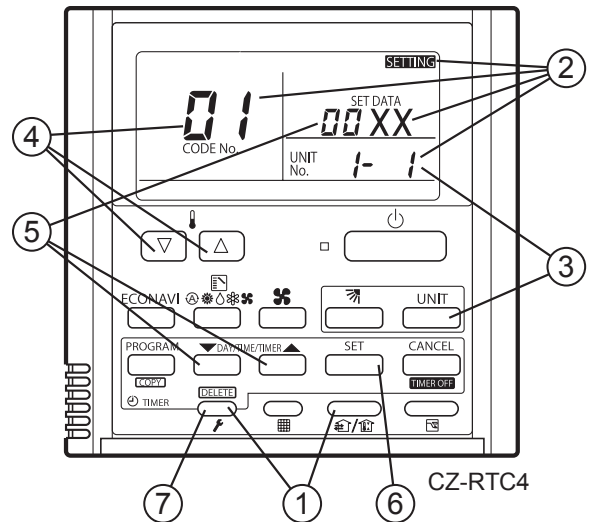

Fig. 7-1
- "SETTING", unit No. "1-1" (or "ALL" in the case of group control), item code "01," and settings data "00XX" are displayed blinking on the remote controller LCD display (Fig. 7-1). At this time, the indoor unit fan (or all indoor unit fans in the case of group control) begins operating.